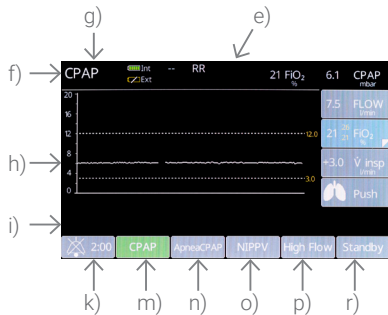

Figure 5-2: medin-NC3 display screen and button assignment
- **Mode:** Displays the selected mode – Position f in Figure 5-2
- **Basic CPAP settings:** The set target values for flow, FiO_2 and the selected additional push flow are shown on the right in the display – Figure 5-2 Position a (flow), b (FiO_2) and c (additional push flow F_{insp}). Instead of the set target value for FiO_2 , the setting of the O_2 flush and its start button are displayed after pressing the b button twice.
- **Manual push:** The trigger button for manual pushes is at position d in Figure 5-2.
- **Readings:** The values measured by the medin-NC3 for the average CPAP pressure (CPAP) and the measured oxygen concentration (FiO_2). In addition, mode-dependent readings such as the respiratory (RR) or push frequencies (R_{insp} – corresponds to the number of inspiration pushes per minute automatically emitted by the medin-NC3) are indicated above in the colored header of the medin-NC3 (Figure 5-2 position e).
- **Status displays:** At position g in Figure 5-2 the medin-NC3 provides information on the battery charge status.
- **Pressure course curve:** The CPAP pressure measured over time is shown as a graph in position h in Figure 5-2. In addition, the maximum measured pressure for each push is marked numerically. The representation of the pressure course can be helpful in selecting CPAP parameter settings.
- **Active alarms:** Information about active alarms is given in position i in Figure 5-2. If several alarms are active at the same time, they are displayed in alternation. See chapter 8 for a detailed description of alarms and tips on how to avoid them occurring.
- **Alarm button:** Field j in Figure 5-2 and its button are always used to acknowledge alarms. The remaining time of the mute status of the alarms is also displayed in this field.
- **Button assignment:** The fields m to r in Figure 5-2 have changing functions. The current meaning of each button is shown in the display over it. In some menus, two different parameters are assigned to a single button in fields m to r. In this case, the operator can press the relevant button several times to switch between the parameters.
Press button a as shown in Figure 5-2 to change the flow value that has been selected. This action activates the flow setting (a green background appears). The target value can then be changed by turning the dial. As this also immediately changes the flow volume produced by the medin-NC3, the operator can see the effect of this change on the CPAP pressure produced as shown in graph h in Figure 5-2. The operator can terminate activation, and thereby the ability to change the flow value, by pressing the dial. If the dial is not pressed to conclude the flow change, the medin-NC3 still accepts the flow volume change.
Alter the oxygen concentration by using button b in Figure 5-2 to highlight the current oxygen concentration and then turning the dial to select the desired value. Press the dial to confirm the new value. This completes the process of adjusting the oxygen concentration. It is only now that the medin-NC3 alters the oxygen concentration in the patient flow. If the oxygen concentration adjustment is not confirmed by pressing the dial, the medin-NC3 continues to blend the oxygen concentration that was set before the target value was adjusted.
The automatic duration of the O₂ flush is 1 min. However, it can be discontinued early by pressing the button. The level of the O₂ flush can be changed by the user in the respective Settings mode. This can be opened by pressing the p button in Figure 5-2. Here the setting of the level of the O₂ flush can now be activated by pressing the r button in Figure 5-2. The following are available for selection: +5, +10 and +15, and this can be selected by turning the dial. A final pressing of the dial confirms the new setting which takes effect as of the next newly started O₂ flush. O₂ flushes already in progress will continue to be performed with the old setting. The selected level of the O₂ flush determines the emitted oxygen concentration during an O₂ flush: Thus, for example, during an O₂ flush, an oxygen concentration should be emitted which is 5, 10 or 15 vol. % greater than the set target value of the oxygen concentration (affects setting +5, +10, +15). Given a target oxygen concentration of 25% and an O₂ flush with the setting +10, an oxygen content of 35% would be emitted during the O₂ flush. However, a maximum of 100% oxygen can be emitted.
The start button for an O₂ flush is located behind the FiO₂ button and can be selected by pressing this button twice (button b in Figure 5-2). If the start button has a green background, pressing the dial can start the O₂ flush. Now the medin-NC3 automatically emits an increased oxygen concentration for one minute.
As long as an O₂ flush is active, the O₂ flush discontinuation button can be found at position b in Figure 5-2 instead of the FiO₂ setting button. If this is selected by pressing button b in Figure 5-2 and then confirmed by pressing the dial, the O₂ flush is immediately discontinued. If, on the other hand, the O₂ flush is not discontinued early by the user, it ends automatically after one minute and the button FiO₂ target value is displayed once again.
In field c in Figure 5-2, set an additional flow (F_{insp}) by pressing the button to activate the setting and turning the dial to select a value which immediately becomes active for the next push and then pressing the dial to confirm. If the dial is not pushed, the change is made nonetheless. During a push, the medin-NC3 emits, as a flow, the sum of the set basic flow (Flow) in Figure 5-2 field a and the additional push flows (F_{insp}).
A push can be triggered manually in all CPAP modes of the medin-NC3. This is done by pressing button d in Figure 5-2. The medin-NC3 responds to this by immediately triggering a push. The duration of the triggered push corresponds to the set duration of the inspiration. If the button is held down, no additional push is triggered after the first one has been completed. Another push can only be triggered by releasing the push button and pressing it again. The precondition for triggering a manual push is that a push flow ($F_{\text{insp}} > 0$ L/min) was set.
There are special settings for the apnea mode. These apnea settings can be opened by pressing the p button in Figure 5-2, which offers the possibility of changing six parameters. To change a parameter, press the corresponding button to select it, turn the dial to the desired setting, and press the dial to confirm your selection.